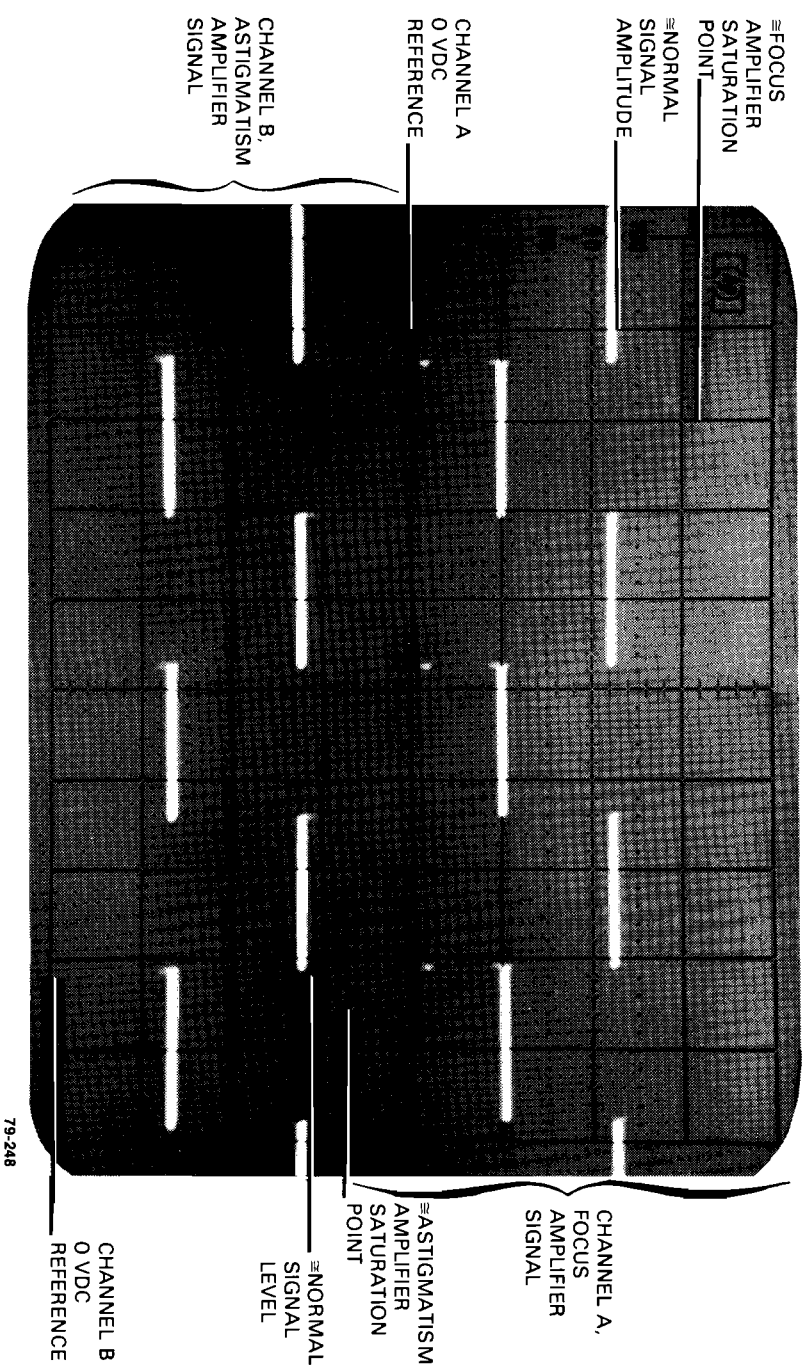

Figure 5-17. Focus and Astigmatism Waveforms
- d. Set oscilloscope controls as follows and obtain the display as shown in figure 5-17.